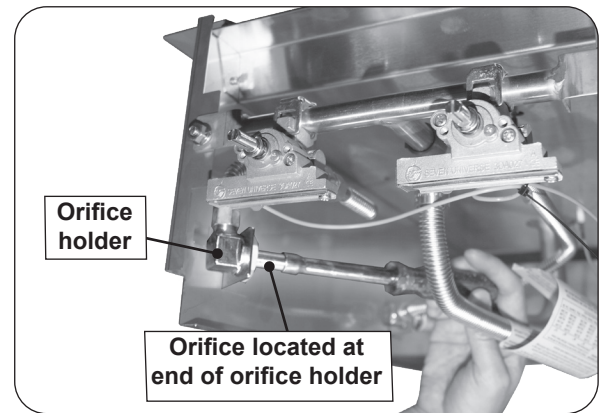

Fig. 36-1 Orifice location
4. Using a $\frac{3}{8}$ " socket nut driver, remove the orifice from the orifice holder (see Fig. 36-1) and check the number stamped on the orifice face.